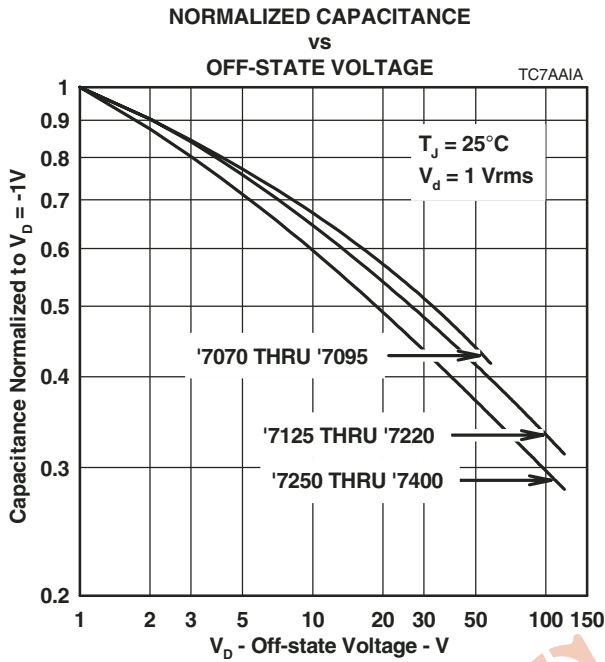

Figure 6.
The protector characteristic off-state capacitance values are given for d.c. bias voltage, V_D , values of 0, -1 V, -2 V and -50 V. Where possible, values are also given for -100 V. Values for other voltages may be calculated by multiplying the $V_D = 0$ capacitance value by the factor given in Figure 6. Up to 10 MHz, the capacitance is essentially independent of frequency. Above 10 MHz, the effective capacitance is strongly dependent on connection inductance. For example, a printed wiring (PW) trace of 10 cm could create a circuit resonance with the device capacitance in the region of 50 MHz. In many applications, the typical conductor bias voltages will be about -2 V and -50 V. Figure 7 shows the differential (line unbalance) capacitance caused by biasing one protector at -2 V and the other at -50 V.